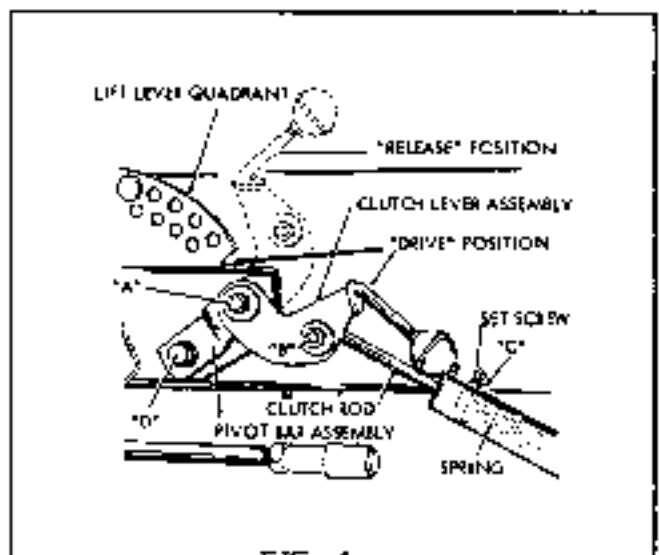

FIG. 4
4. Remove hex capscrew "D" from frame of tractor and mount bracket in place on left lever quadrant (Fig. 4). Position the pivot bar assembly flush against bottom of left quadrant and reinstall the hex capscrew and tighten securely. Check alignment of drive pulley on bevel gear shaft, driven pulley of P.T.O. and idler pulley and adjust driving pulley if necessary.
Operation of the P.T.O. is controlled by movement of the clutch lever assembly. (See Fig. 4). When the clutch lever is in the forward raised position, the clutch rod releases the tension holding the idler pulley against the drive belt and power will not be transmitted to the driven pulley of the P.T.O. assembly. When the clutch lever is in the back, depressed position, the clutch rod applies tension to the idler pulley and as the idler pulley takes-up the slack in the drive belt, power is transmitted from the drive pulley on bevel gear box shaft to the driven pulley of the P.T.O. Fig. 4 shows clutch lever in drive position.
At points "A" and "B" of Fig. 4, check tightness
Place clutch lever in "drive" position and observe clearance between collar "C" (Fig. 4) and end of bracket. When implement is attached to tractor, this clearance should normally be approximately $3/4$ " at this setting the idler pulley should be snug against the drive belt. If additional tension is required, release clutch lever and loosen setscrew on collar and slide collar farther back on clutch rod. Retighten setscrew in collar and put clutch lever in drive position. Recheck clearance. The tension of the idler pulley against the drive belt must be sufficient to operate whichever tractor attachment is being used. Any additional tension is unnecessary and will only cause premature failure of belts and idler pulley bearings.